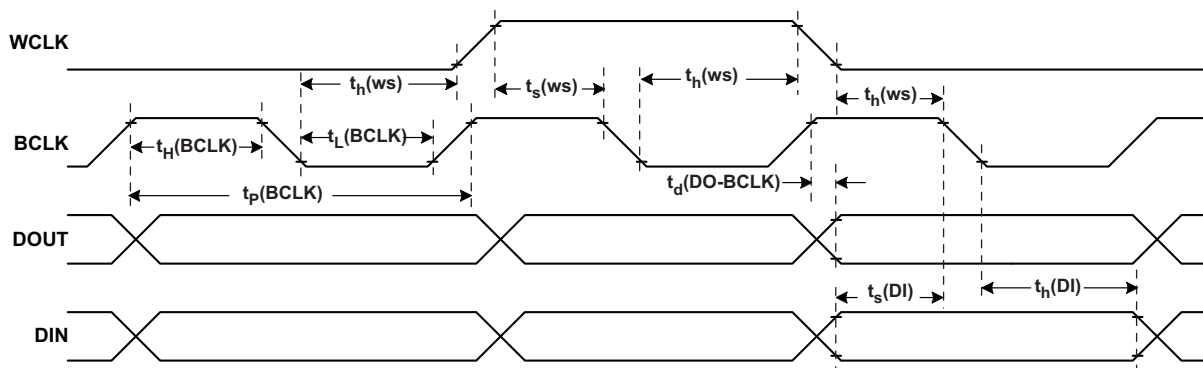

Figure 3-4. DSP Timing in Slave Mode
3.4.3.2 TYPICAL TIMING CHARACTERISTICS (see Figure 3-4)